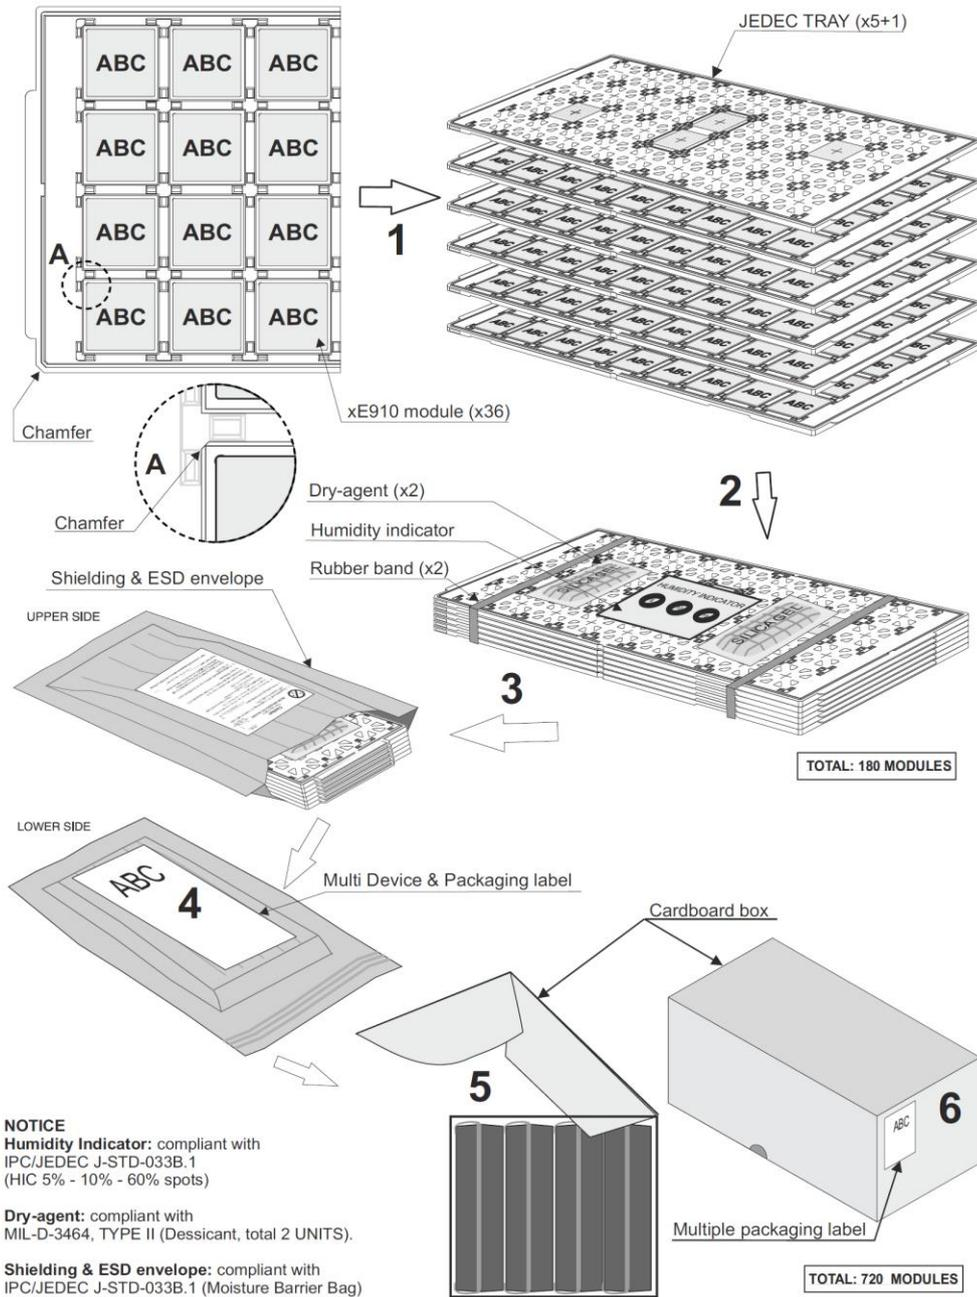

Figure 42: Packing
The LE910Cx modules are packaged on trays of 36 pieces each as shown in Figure 42. These trays can be used in SMT processes for pick & place handling.
In case of LE910Cx-WWX (D) modules are packaged on trays of 27 pieces each as shown in Figure 42